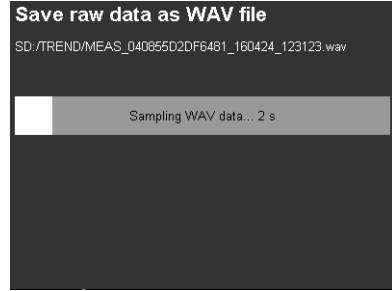

Figure 61: WAV recording
- **WAV:** Enables the raw data recording of the captured samples of a measurement channel in wave format, saved on an SD card in the TREND directory. A channel is recorded for 20 seconds at a sampling rate of 48828 samples/second with 24 bit resolution (figures 61 and 62). The samples are the raw data from the analog-to-digital converter. A gain of 1, 10 or 100 can be set before saving. The resulting output ranges are  $\pm 10$  V,  $\pm 1$  V or  $\pm 0.1$  V. A comment block ICMT containing information on the instrument and its settings is stored in the header data. Example: